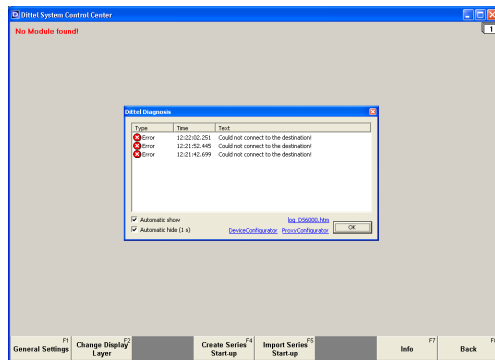

Figure 5-7
- ▷ Confirm a change in **Language** by clicking on the [OK] key or pressing the [OK] softkey or function key [F8]. The screen Figure 5-7 opens in the selected language.
- ▷ After you have selected and confirmed the language, you return to the opposite screen Figure 5-7.
- ▷ Clicking or pressing the [Cancel] / [F7] key returns you without any change to the screen Figure 5-7 or 5-8.